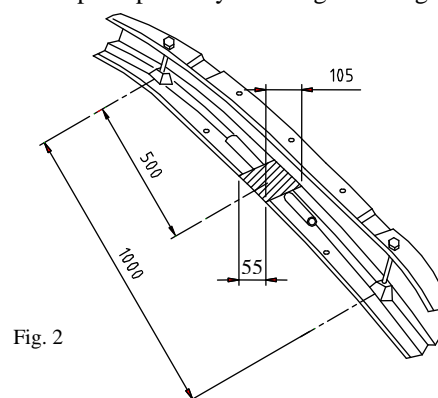

Fig. 2
2. In aluminium and plastic part of the bumper cut out fragments (as shown on the fig. 2 and 3).